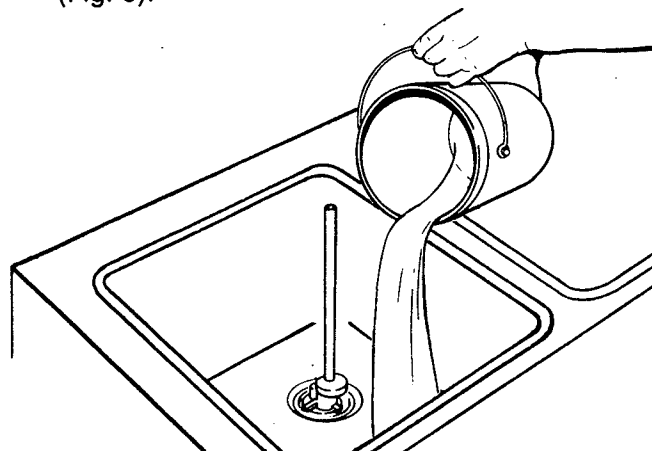

Figure 9. Sanitizing Procedure
- B. Prepare 2 gallons (7.5 liters) of sanitizing solution following manufacturer's instructions. Pour into hopper with mix inlet regulator in place (Fig. 9).